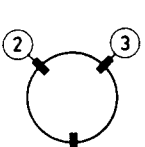

Fig. 4d
on unit forward as far as possible. The picture tube cone and turn on the deflection unit in such a manner that the deflection unit is in the position drawn, turn on the deflection unit by loosening the deflection unit, as shown in Figs. 4d or 5d. Two wedge thicknesses are available, one 7 mm thick, code 4822 462 40356, the other 11 mm thick, code 4822 462 40357.
6. Remove wedge ①, so that the situation according to Fig. 4d or 5d occurs.
The dynamic convergence is achieved by vertical and horizontal tilting of the deflection unit. To secure the right position of the deflection unit, three rubber wedges are fitted between the glass of the picture tube cone and the deflection unit, as shown in Figs. 4d or 5d. Two wedge thicknesses are available, one 7 mm thick, code 4822 462 40356, the other 11 mm thick, code 4822 462 40357.